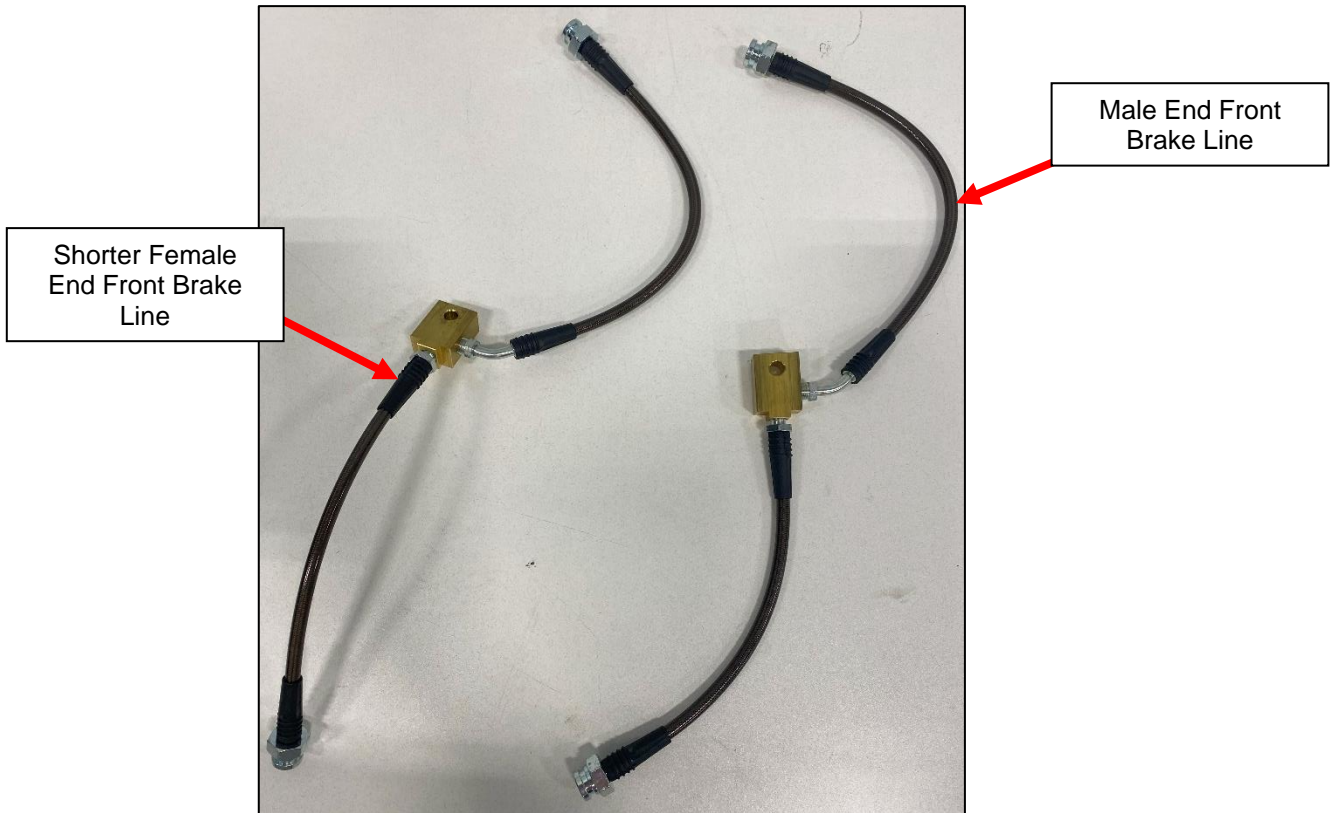

Figure 7
13. **2012+**: Locate the Shorter Female End Front Brake Line and the Male End Front Brake Line. Install the Male End Brake Line into the Brass Block of the Female End Brake Line. *Figure 7.*